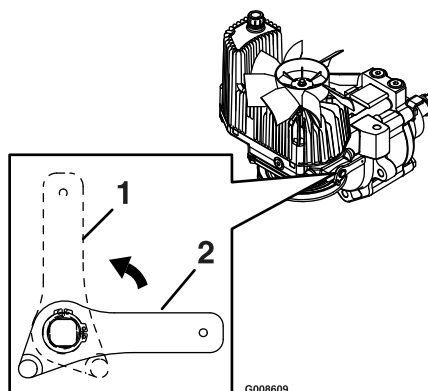

Figure 8
During normal operating conditions, the drive wheel release valves are positioned horizontally. If the machine has to be pushed by hand, the valves must be in the “released” position (see Figure 8).
To release the drive system (see item 1 in Figure 8), rotate the handle 1/4 turn to the vertical position until it hits against the stop.
To reset the drive system (see item 2 in Figure 8), rotate the handle 1/4 turn to the horizontal position until it hits against the stop.